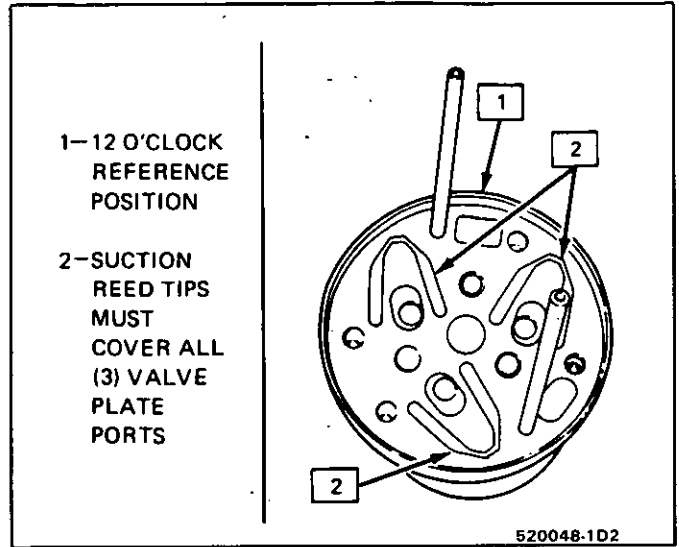
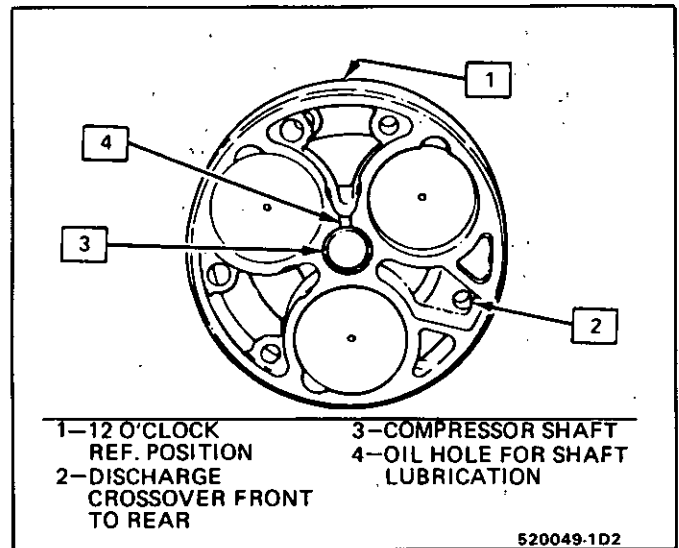

Fig. 47 Suction Reed Plate Properly Installed
Fig. 48 Rear View and Detail of DA-6 Cylinder and Shaft Assembly
5. Assemble the suction reed plate over the guide pins and position as shown (Fig. 47). Be sure all three (3) suction reed tips cover the suction ports in the rear valve plate or the reed plate is improperly assembled. See recess provision in rear of cylinder for suction reed tip movement (Fig. 48).